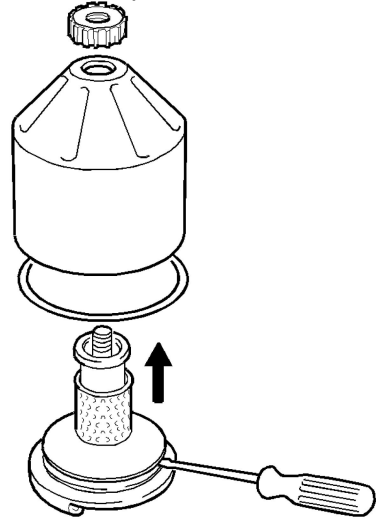

Figure 6
4. Remove the strainer located on the rotor (Figure 6). If the strainer is stuck, use a screwdriver to carefully pry the bottom edge until it comes loose from the bottom plate.